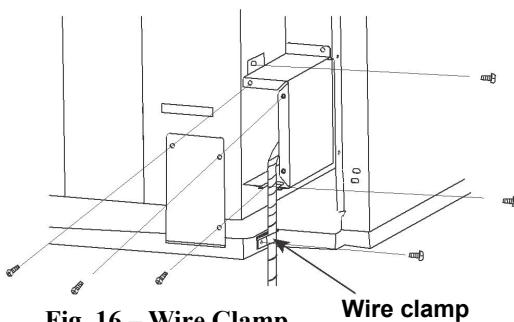

Fig. 16 – Wire Clamp
- Use wire clamp to attach power cord to base pan. Secure with screws (included) See Fig. 16.